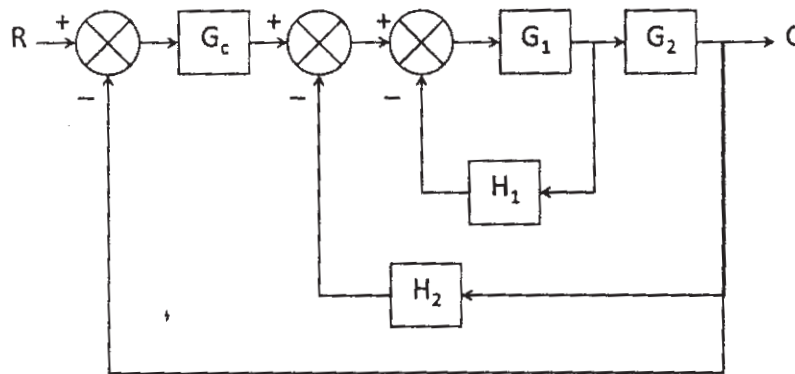

Figure 2
- Q2) a)** Reduce the block diagram in Figure 2 and determine the transfer function: C/R . [8]